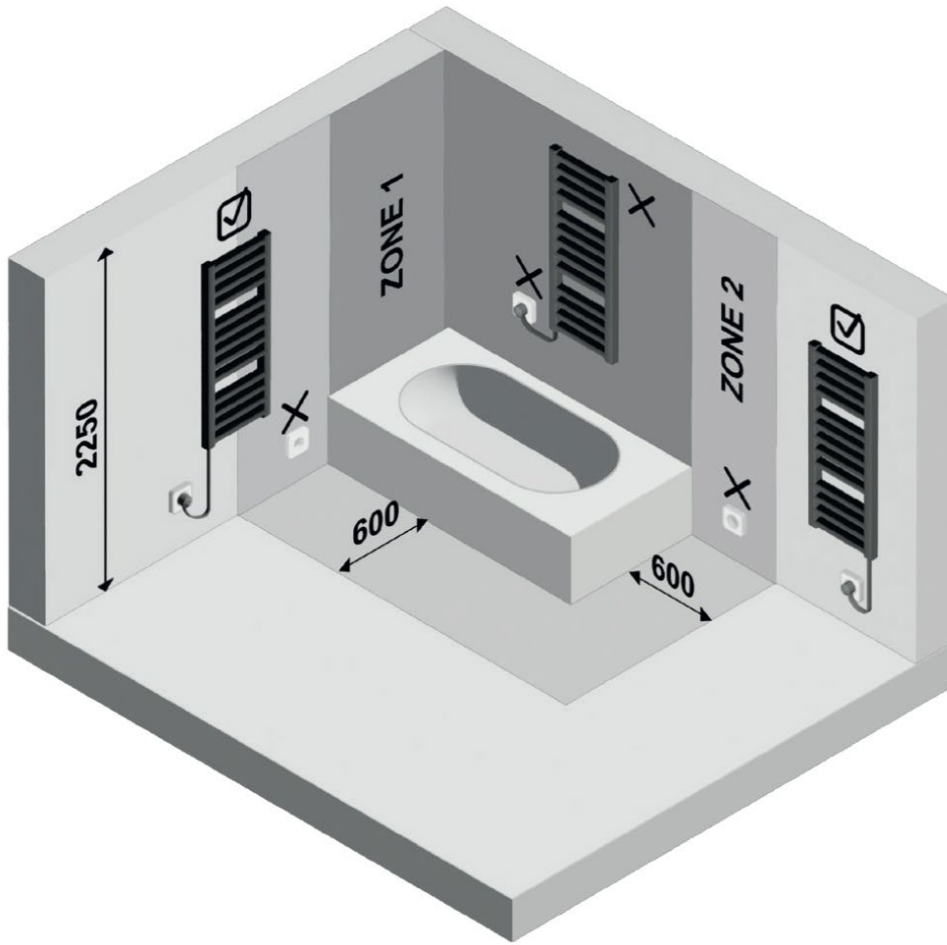

Figure 3
- The radiator equipped with the NEO / NEO WIFI controller must be located at least in bathroom zone 2 in accordance with the IP protection level and applicable electrical regulations (Zone definition according to IEC 60364-7-701 – see Figure 3). In case of doubt about the correct installation zone, refer to the relevant public institution.